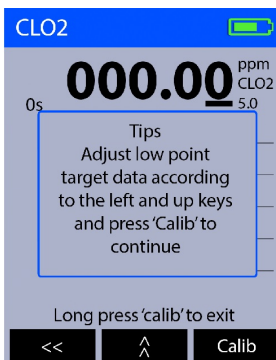

Figure 10.
3. Press **OK** () to launch the calibration screen (Figure 10).
4. Fill a sample vial with deionized (DI) water or with solution with a known concentration and place it in the sample vial compartment of the SP-200.